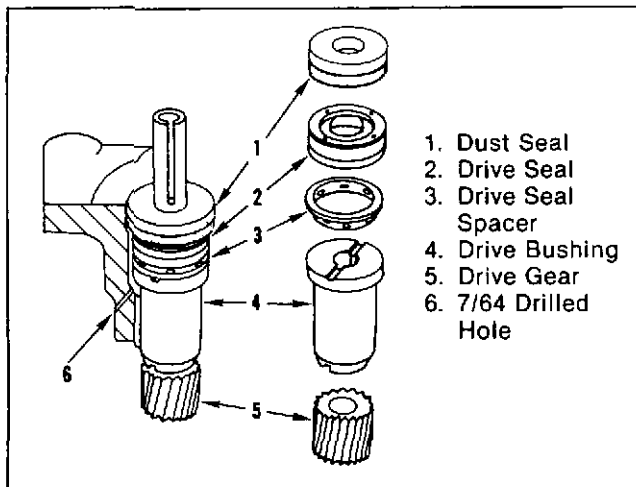

Fig. 2-16, (F5214). The tachometer drive parts in the housing.
1. Remove the felt sealing washer, when used, and the oil seal from the tachometer drive shaft. Fig. 2-16.